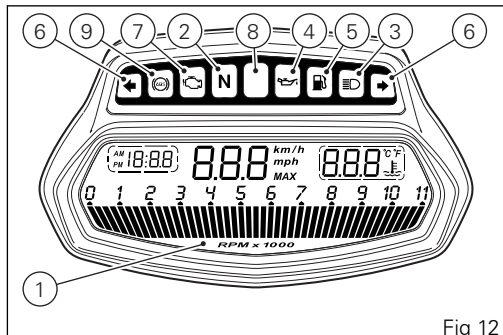

Fig 12
9) ABS LIGHT (AMBER YELLOW) (Fig 12).